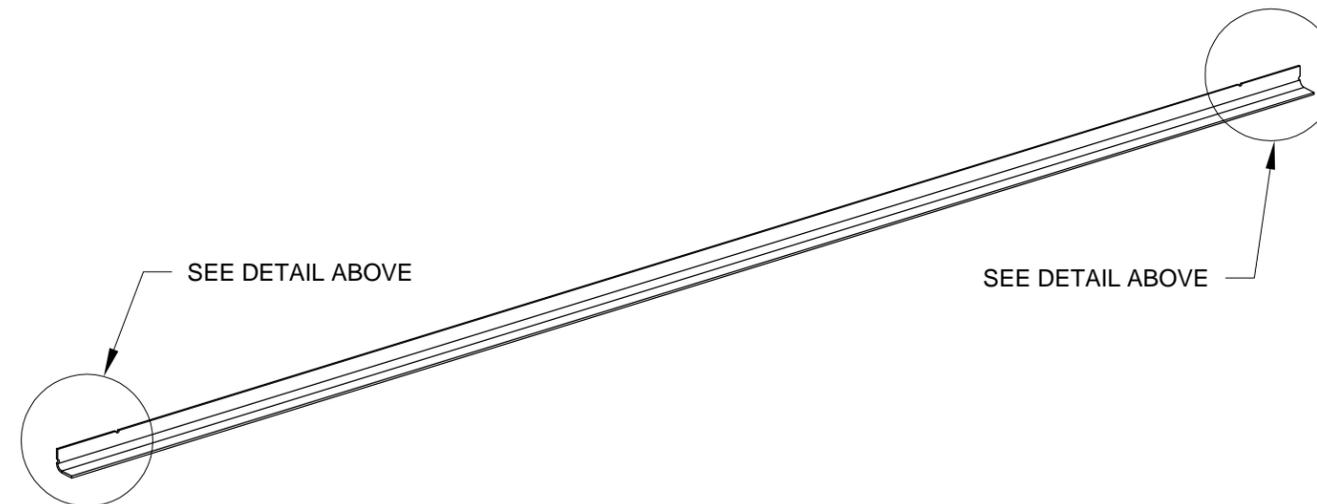

FIGURE 3: SPAR CAP AND STRINGER TRIM
Step 4: Trim material (shaded areas) from both ends of the HS-00913 Front Spar Caps, and the HS-00914 Stringers as shown in Figure 3. The parts are shown unbent in the figure for clarity. Use the notches in the parts to determine the trim line and note in the figure that the trim line completely removes the notches. See Page 08-04 Figure 1 for full view of the front spar caps, and Page 08-09 Figure 1 for a full view of the stringers.